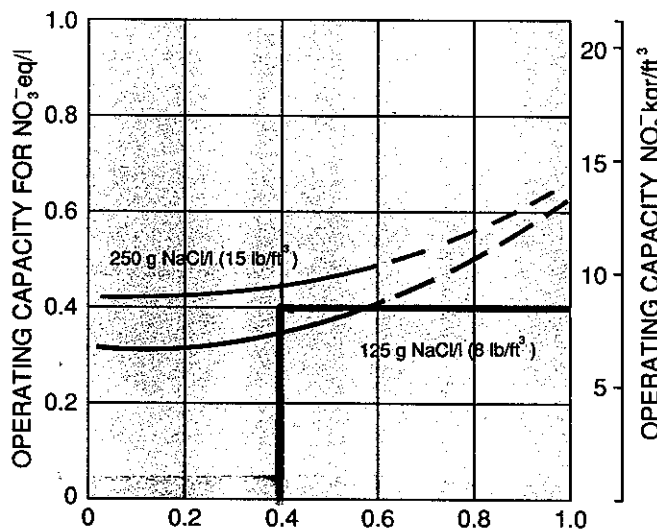

Figure 3
Step 3 Operating Capacity = 9,500 grains / cu. ft. media (Refer to Figure 3.)